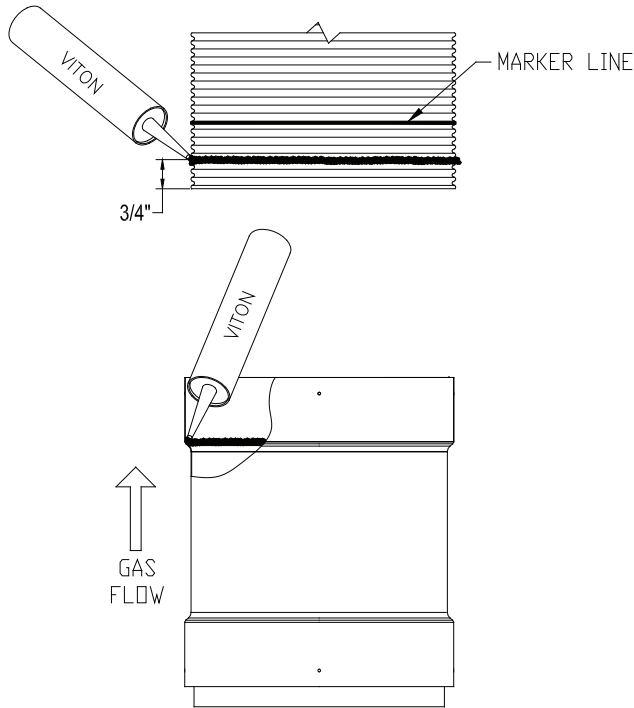

Figure 18 -DuraSeal Flex Vi ton• caulking
- 2.1. Add a bead of Viton® caulking (resistance to condensate) all around inside the adapter on the beginning of the flare. Add another bead of Viton® caulking all around the outside of the flexible liner at 3/4" from the edge (Figure 18).